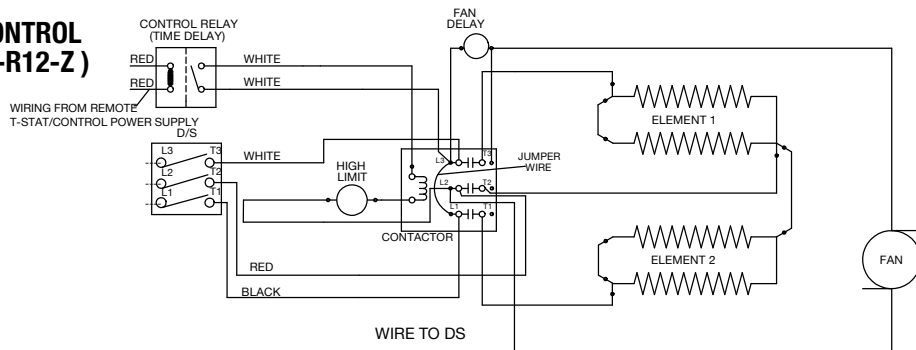

Figure 5
2. To wire the relay, refer to the wiring diagram, Figure 5, and proceed as follows: